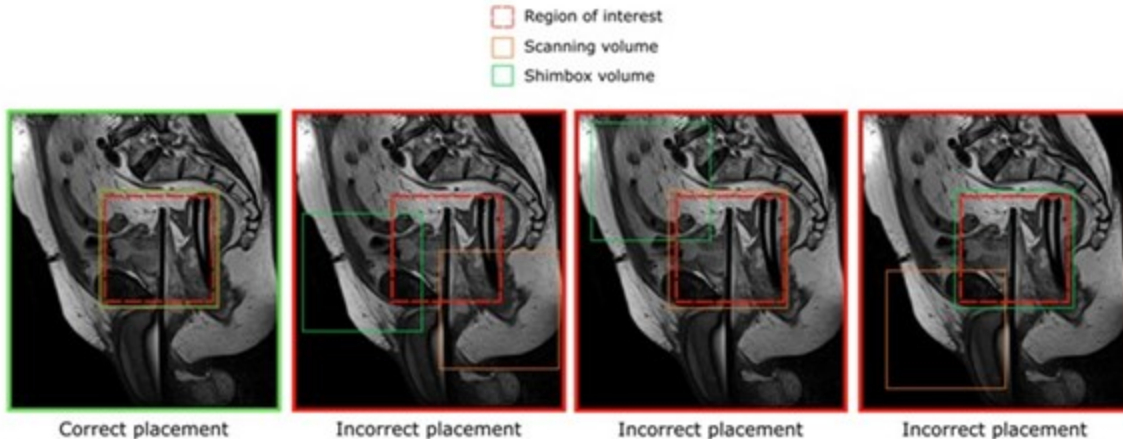

Figure 35: Examples of correct and incorrect placements of the shim box
1. **MRI Technologist:** Open AX THERM for editing in the Offc/Ang tab, change the AP, RL, and FH values for both Stack Offc. and Ang (*Figure 36*). to match those in TDC. Do the same for the shim volume. If the shim volume includes more than just the patient anatomy (e.g. air), reduce the size of the shim box (*Figure 35*).